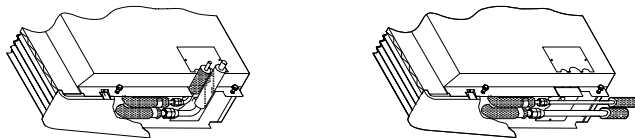
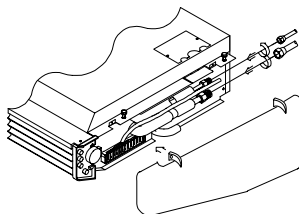

Fig. 4
Fig. 5
- (1) The unit should be at the reasonable level and pitched toward the drain, so as to ensure proper drainage.
- (2) Connect the soft hard vinyl chloride pipe to the coupling, see fig.4
- (3) Drainage is done by gravity effect, therefore the piping outside the unit should have a slope downwards.
- (4) Avoid draining as shown in fig.5
- (2) The pipes can be bend around the rear as shown in figure 4.
- (3) Brazing should be performed with a constant purge of nitrogen through the piping. This is to keep inside of tubing clean.
- (4) Insulate suction and liquid line separately to prevent sweating .
- (5) Use two spanners to connect the flare nut connections. See fig.5